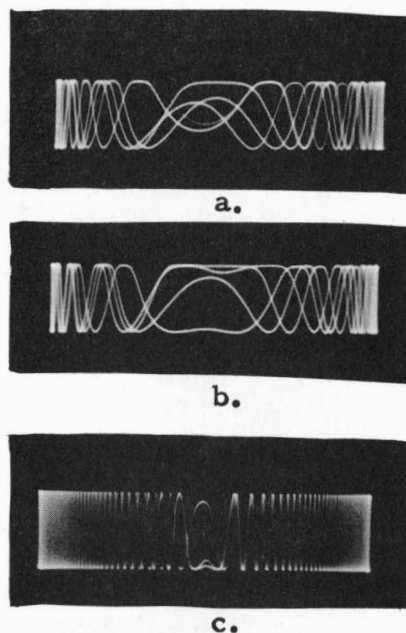

Fig. 8. Typical scope patterns obtained when signal to be measured has some frequency deviation.
- (2) Use a medium non-repeating Gate Time (0.1 sec.) and Infinite Display Time. Press and release RESET button at instant of optimum 540A tuning and read the 540A frequency on counter. This allows the reading to be made at a precise moment and this frequency will be displayed until a new reading is to be made.
- c. Using the FINE VERNIER tuning control, reduce the difference-frequency response on the oscilloscope to as close to zero-beat as the stability of the measured signal will allow, (see step f). Absolute zero-beat will be obtained when the oscilloscope trace disappears into the horizontal line. Various looped patterns are obtained as the 540A is tuned slightly away from the measured frequency. Any patterns, such as illustrated in Figures 8, are sufficiently close to zero-beat for most measurements, and are more practical to use than the absolute zero-beat.
In practice few signals are sufficiently stable that the simple zero-beat shown in Figure 7c can be obtained. Instead, the signal usually measured has enough instability (residual frequency modulation) that beat-frequency patterns like those in Figures 8a, b and c are obtained. If the frequency of the unknown signal varies (has some residual frequency modulation), the difference-frequency viewed on the oscilloscope will also vary, and the exact zero-beat will be in the center of a band of difference-frequencies all shown simultaneously on the oscilloscope screen. Such a pattern is shown in various degrees in Figure 8. Figure 8a and 8b shows two typical beat-frequency responses of signals containing very minor amounts of residual frequency deviation: Figure 8c shows a larger amount of frequency deviation. When such responses are obtained while tuning the 540A, it will be